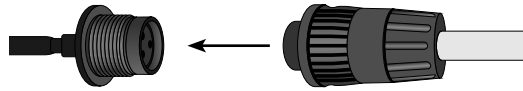

Figure 4
1. Plug the circular connector from the humidistat cable into the circular connector on the unit as shown in Figure 4.